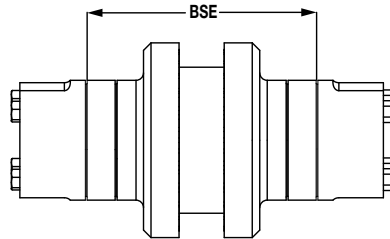

Figure 2 - BSE Dimension
- Position the shafts to the desired "BSE" dimension (Figure 2).